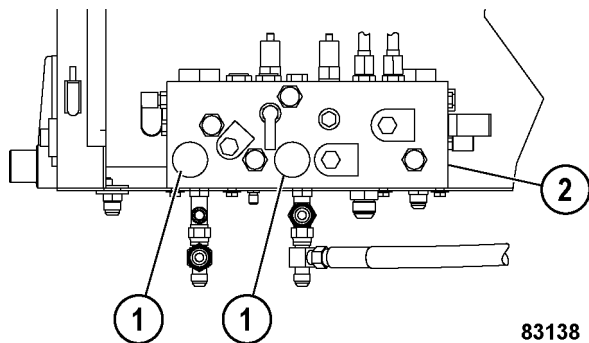

FIGURE 10-8. BRAKE MANIFOLD
17. Ensure both brake accumulator bleed down valves (1, Figure 10-8) are open.
28. Close both brake accumulator bleed down valves (1, Figure 10-8).
31. If Step 30-b results are satisfactory, open both brake accumulator bleed down valves (1, Figure 10-8) on the brake manifold to completely depressurize the brake accumulators. After all hydraulic pressure has been released, close both accumulator bleed down valves. Repeat Steps 29 - 31 five times.